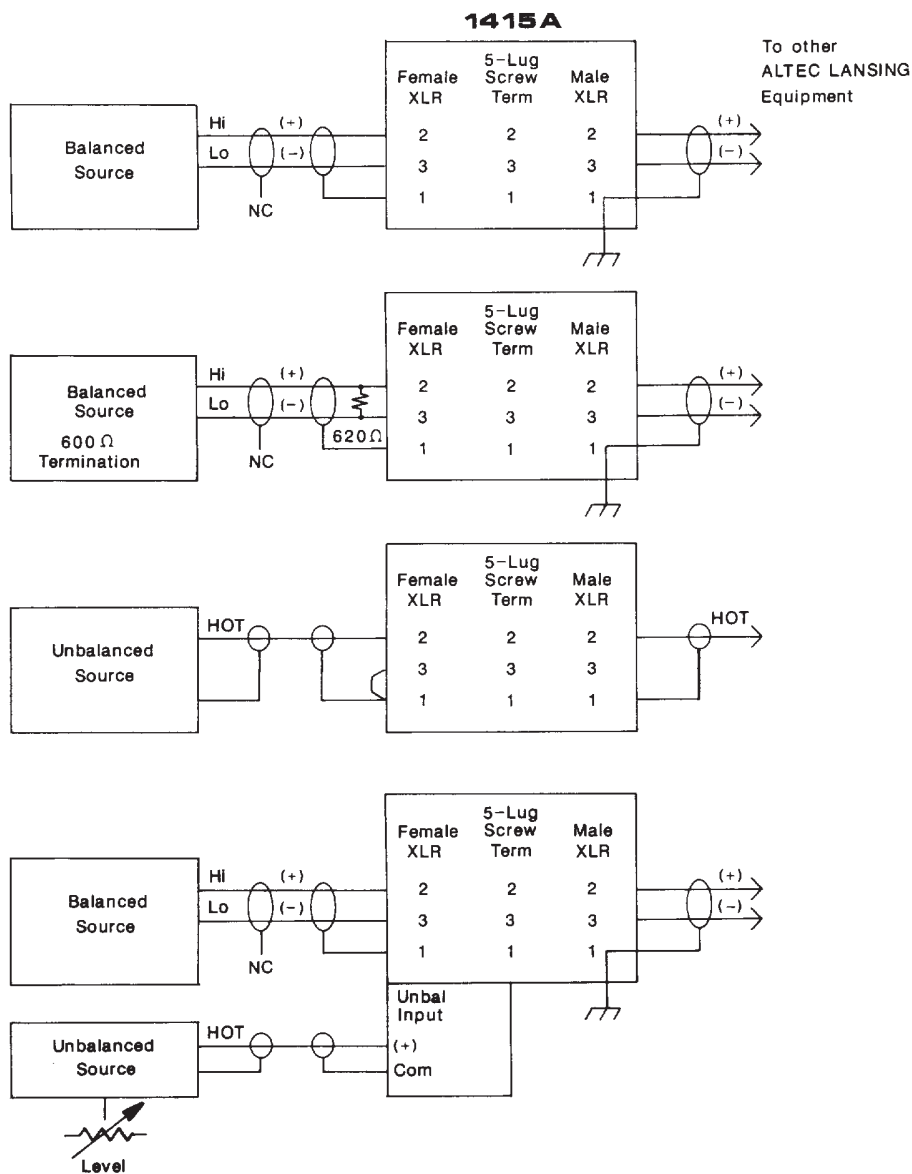

Figure 5. Typical Input Connection Options
Since the input transformer provides a bridging (high impedance) input, many amplifiers may be "paralleled" and driven from a single source. However if only one amplifier is used and the driving source requires a terminating resistor, a 600 Ω (or other appropriate value) resistor should be installed between terminals 2 and 3 of the 5-lug screw terminal connector. Refer to Figure 5 for some typical input configurations.
An XLR-male connector wired in parallel with the balanced input connector(s) provides a signal "flow-thru" connection or patch point to another amplifier. The LINE OUT capabilities are limited only by the driving source feeding the amplifier. Refer to the block diagram shown in Figure 4 and to the typical input connections in Figure 5.
4. Verify that the input connections are properly made. Refer to Figure 5, and Sections 3.1 and 3.2.